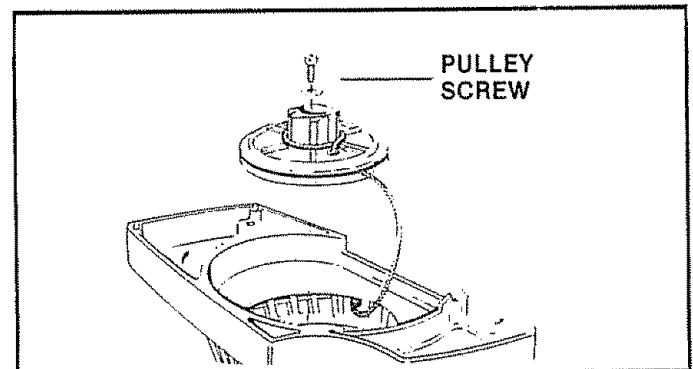

Figure 48
5. Remove the pulley screw in the center of the pulley. Figure 48.
9. Feed the rope through the housing and the round starter hole. Figure 48.